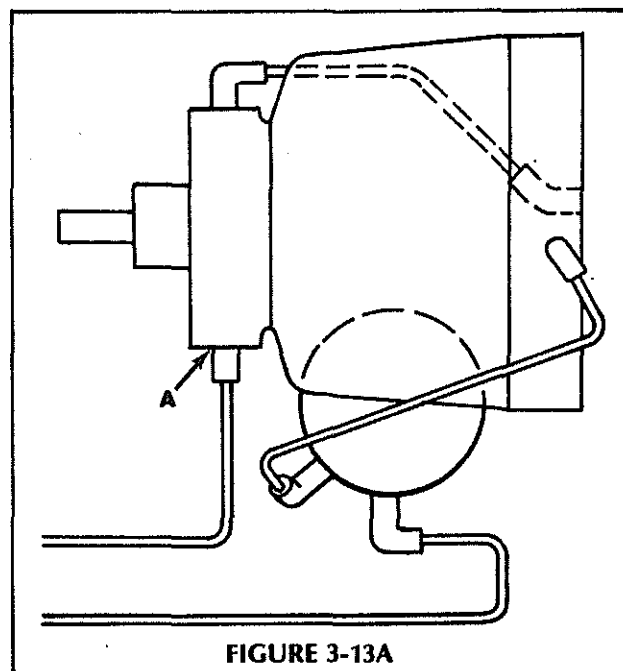

FIGURE 3-13A
The hydrostatic pressure can be checked using a pressure gauge which reads at least 1000 P.S.I. To check the hydrostatic pressure install the gauge into a tee hydraulic fitting between hydrostatic port (A) Figure 3-13A and existing hydraulic tube. Start engine and run for 5-10 minutes. At full RPM the pressure reading should be 140 P.S.I. \pm 50 (964 kPa).